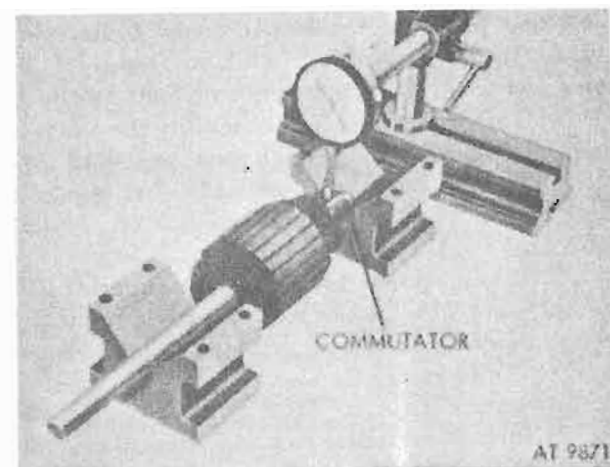

Figure 7-17. Checking run-out of commutator.
(7) Check commutator for burned areas or excessive roughness. Check for out-of-round as shown in figure 7-17.